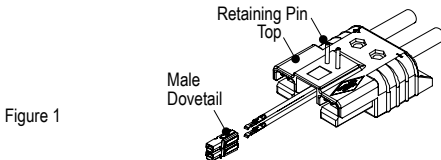

Figure 1
6. Slide stacked auxiliaries back into connector housing until seated. The male dovetail should be on top as shown in Figure 1. Make sure side grooves of auxiliaries are aligned for retaining pins and insert tubular pins. Tap pins in holes from top, as shown in Figure 1.